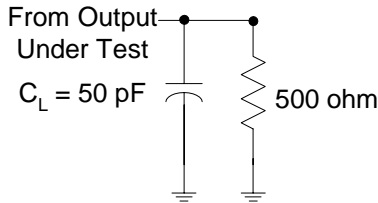

Figure 2. Load Circuit [3,4,5]
**DC Electrical Characteristics @ 3.3V (see Figure 2)**
**DC Electrical Characteristics @ 2.5V (see Figure 2)**
**Power Supply Characteristics (see Figure 2)**